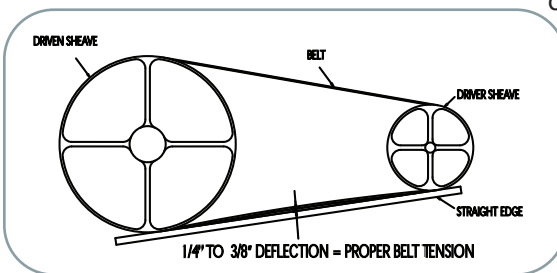
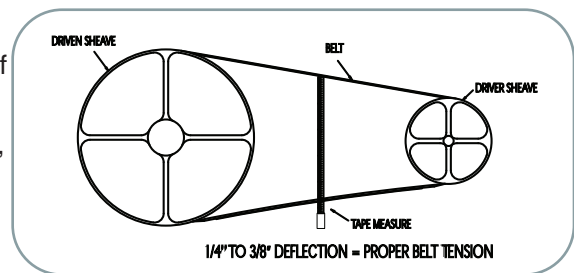

Figure 4a
Figure 4b
- Place a straight edge along the belt from sheave to sheave as shown in Figure 4a, or use a tape measure as shown in Figure 4b, to measure belt deflection.
◦ There is adequate belt tension if the belt deflects between 1/4" and 3/8" as shown in Figures 4a